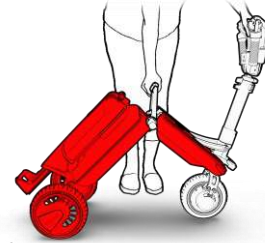

Figure 9
7. Using the main handle, pull the main body away from the rod, thus rolling the rear wheels away from the front wheel (see Figure 9).